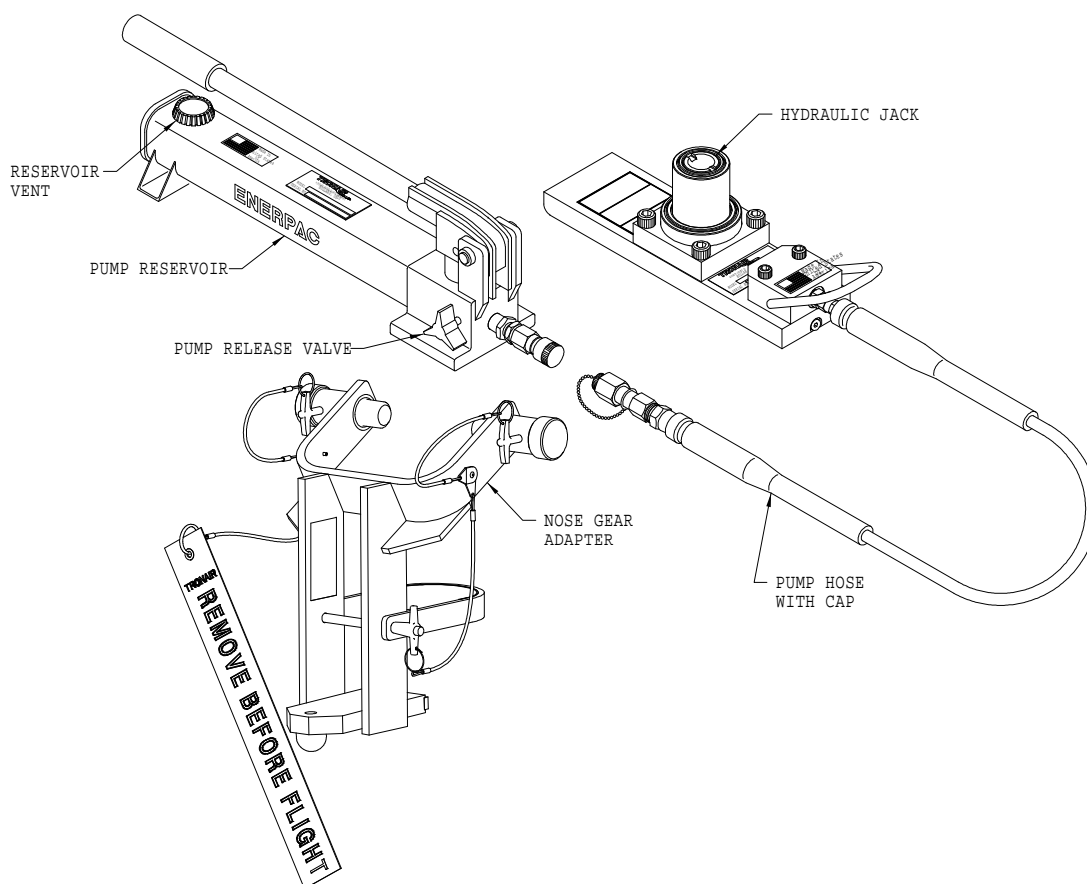

FIGURE 1
3.0 SPECIFICATIONS (Reference Figure 1)